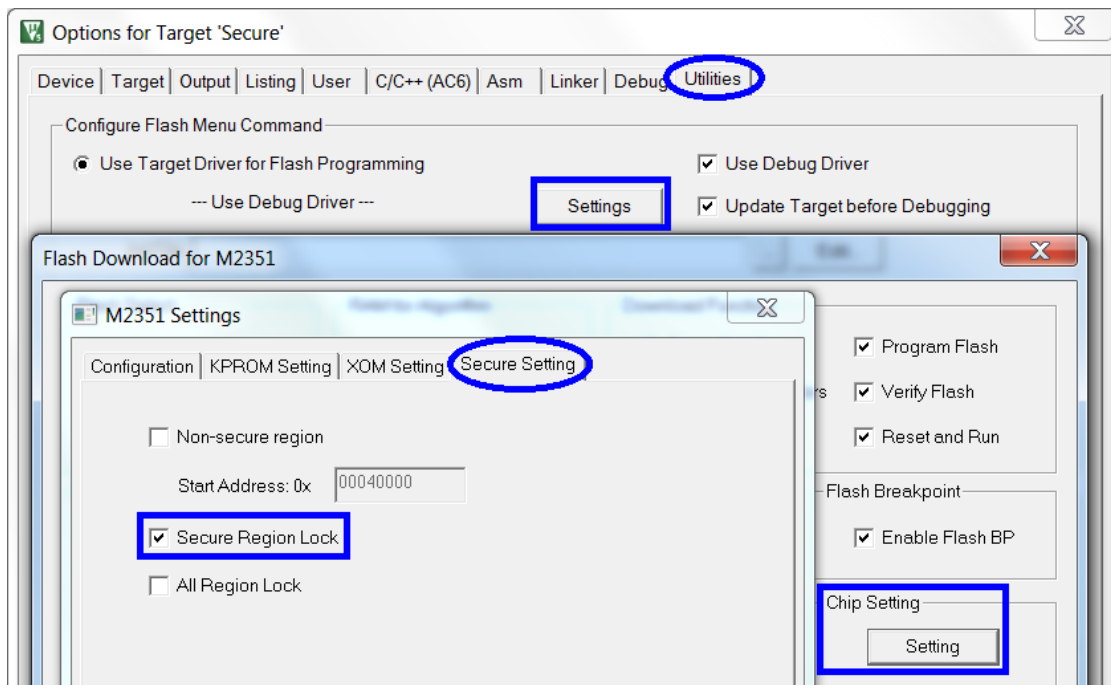

Figure 2-4 Setting Methods of NSCBA and SCRLOCK in Keil® MDK
1. Click [Options for Target – Utilities], and click [Settings] button to open Flash Download page. Then click [Setting] button under Chip Setting to open the Secure Setting page, as shown in Figure 2-4.